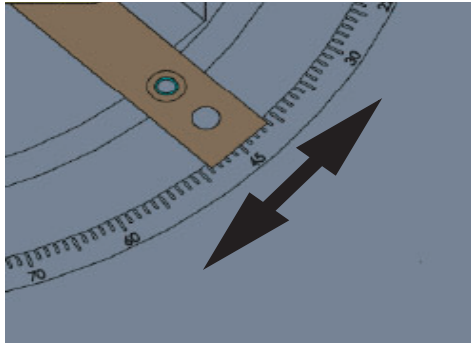

Figure 2.
7.2.2. Angles of the cutting profile trays use the arrow keys on the trench (Figure 2) are required to bring the angles shown. For this purpose;